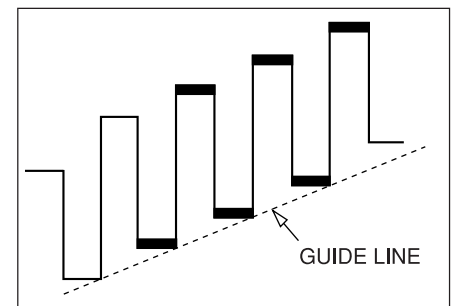

Fig. 3-3
2. Use the volume keys on the jig remote controller to align each bottom point of the waveform tangential to the linear ramp as shown in Fig 3-3.